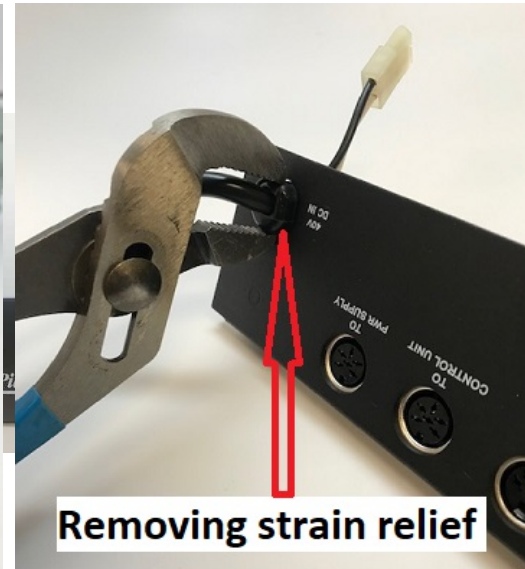

Figure 3
- Using a pair of channel lock pliers, squeeze the strain relief grommet on the 40 VDC cable to release from the plate. (See Fig. 3)